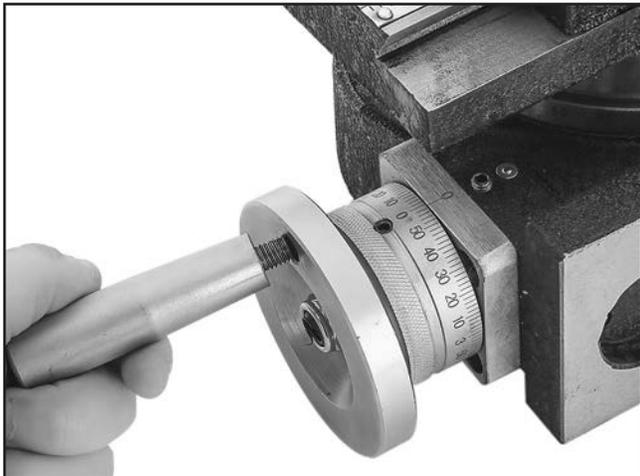

Figure 3. Installing shoulder screw and handle without shaft into rotary table handwheel.
1. Insert shoulder screw into handwheel handle, then attach shoulder screw to 3" rotary table handwheel as shown in **Figure 3**.